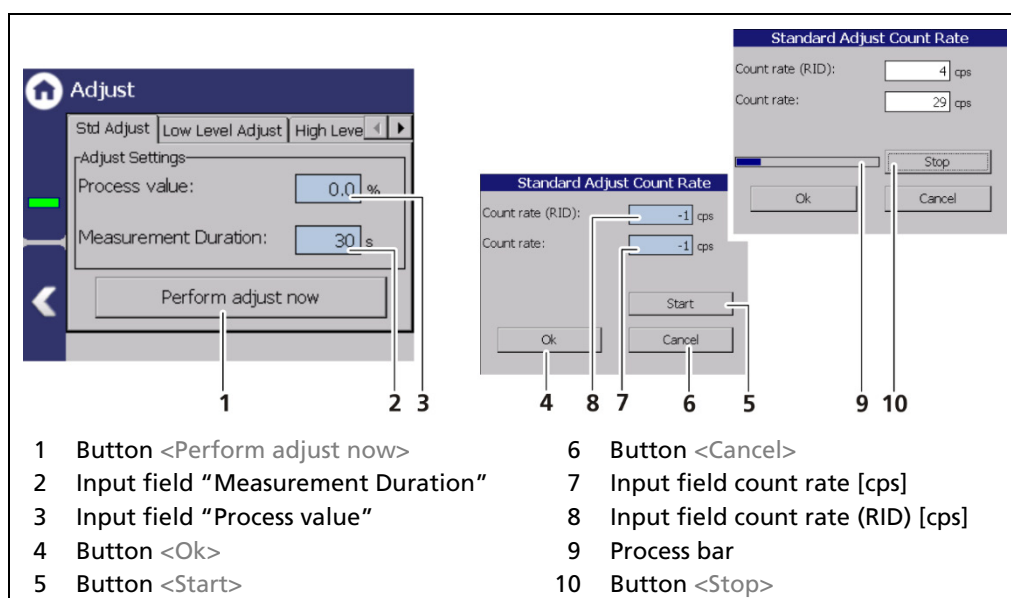

Fig. 87 Standard adjustment
1. Click on the field "Process value" (Fig. 87, item 3) to open the input field.
3. Click on the field "Measurement Duration" field (Fig. 87, item 2) and specify
5. Click on the button <Perform adjust now> (Fig. 87, item 1).
6. Click on the button <Start> (Fig. 87, item 5) to start the measurement.
7. Click <Ok> (Fig. 87, item 4) to accept the values.